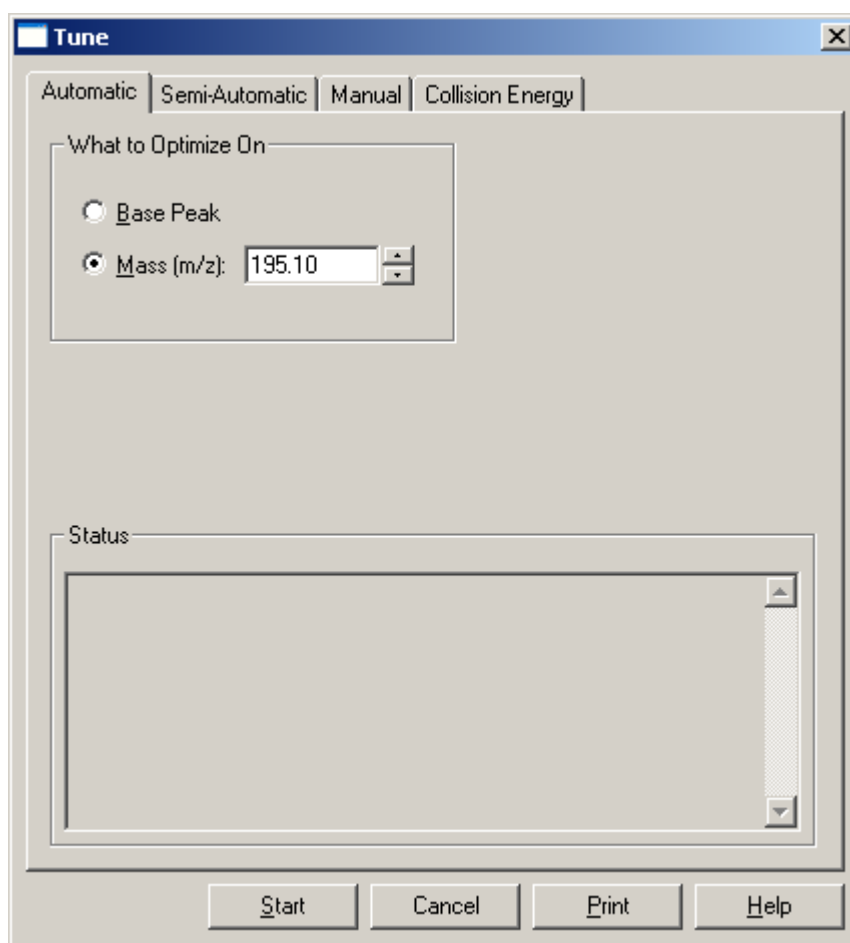

Figure 23. Tune dialog box, showing the Automatic tuning page
2. If necessary, click on the Automatic tab to display the Automatic tuning page. See Figure 23.